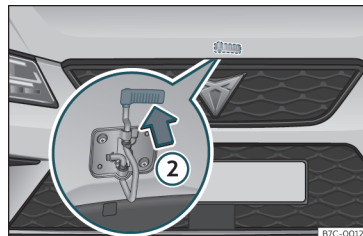

Fig. 10 Cam under the bonnet
- To lift the bonnet: press the release catch under the bonnet upwards >>> Fig. 10 ②. The arrester hook under the bonnet is released.